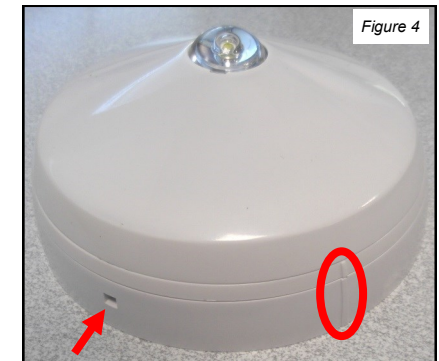

Figure 4
- 4) When the beacon is firmly engaged, check the alignment of the raised reference mark on the beacon and on the base (figure 4).
To unlock the detector, insert the tip of a screwdriver into the side slot of the base by exerting only a light pressure (figure 4), and release the beacon by turning it anticlockwise.